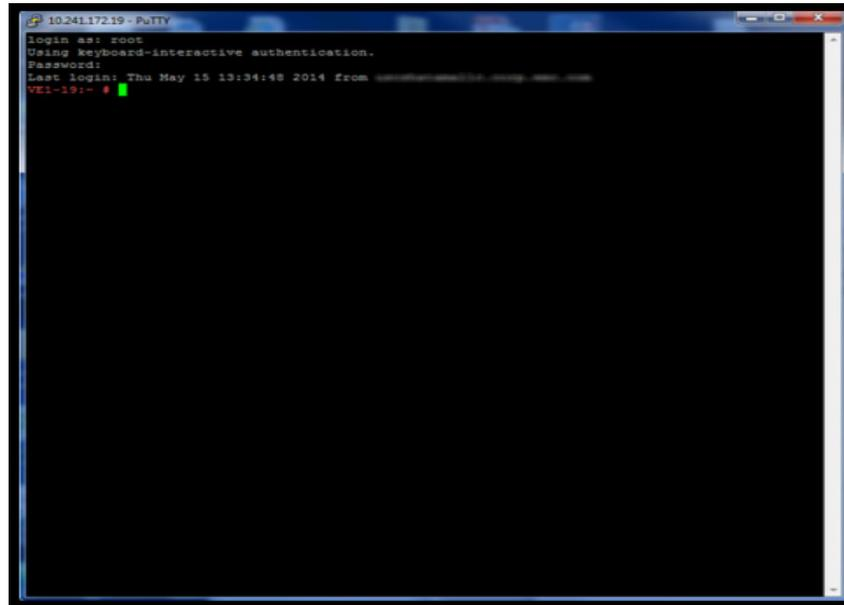

Figure 147 Logging in as root
1. From an ssh session or a console session of the SRS shell, log in using the root credentials established during the first boot configuration of the install process, as shown in Figure 147 on page 122.